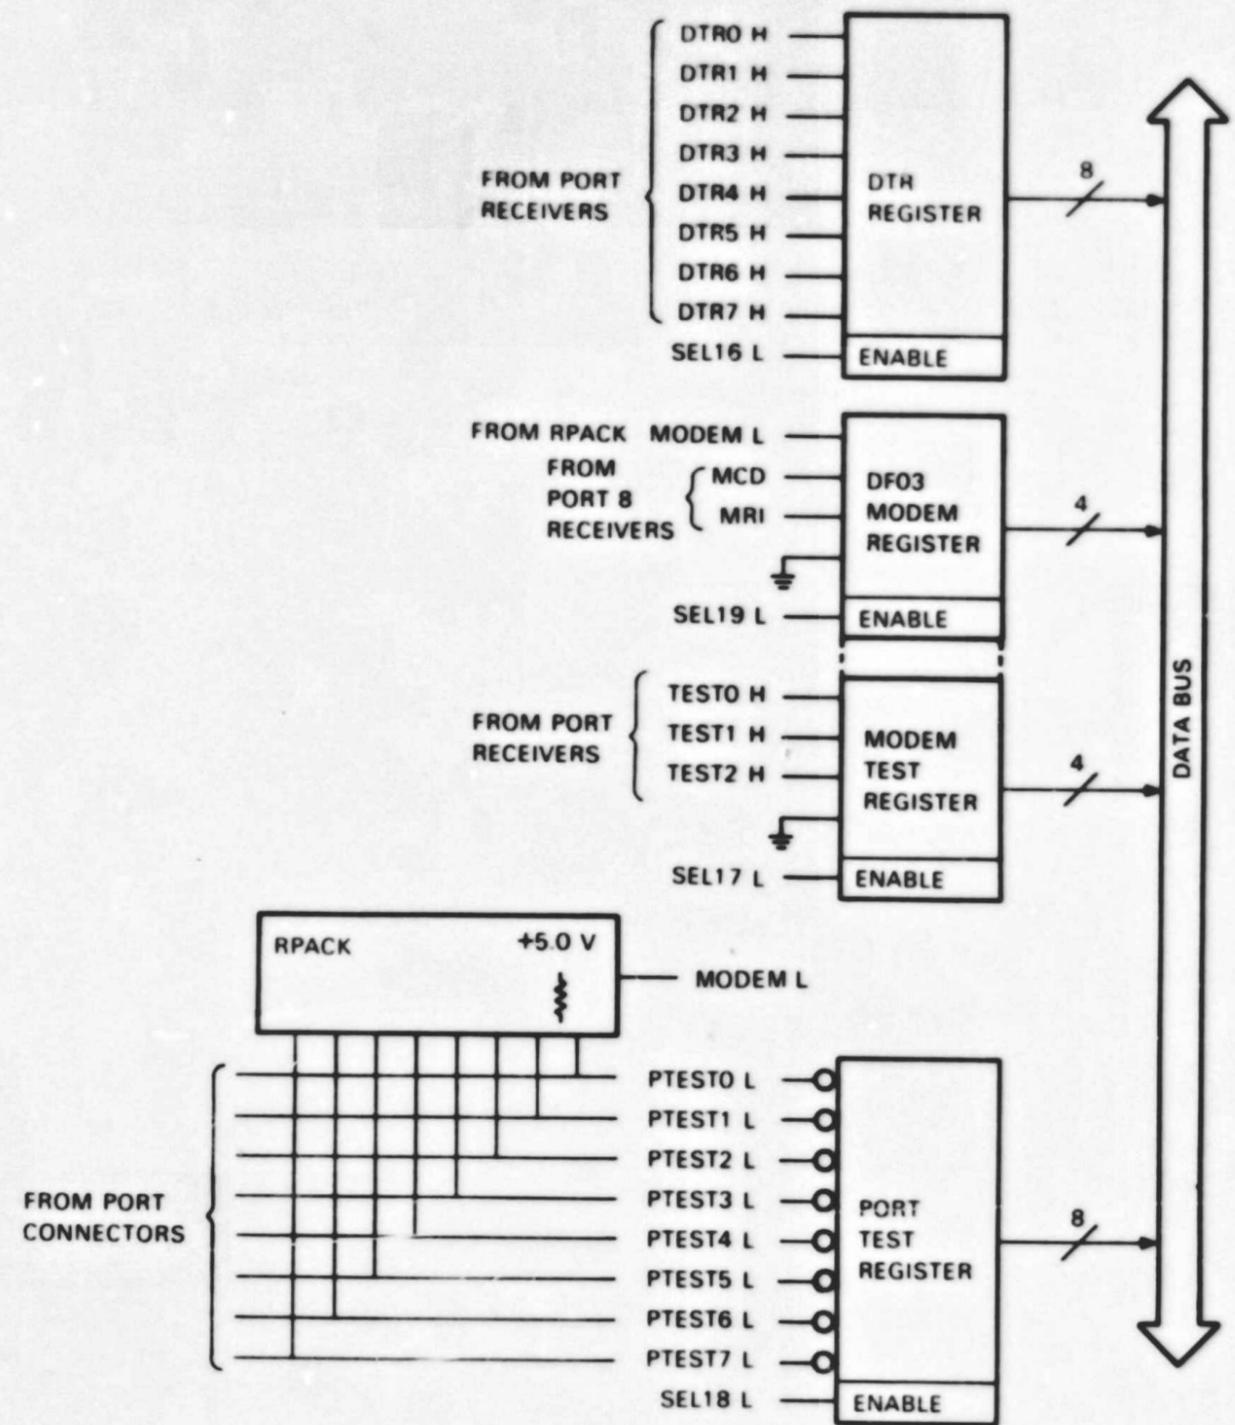

Figure 2-14 Read Control Registers with Data Bus
**2.3.8.1 Data Terminal Ready (DTR) Control Register (Figure 2-14)** – This register is a dual quad buffer. When the address decoders enable this register (SEL16), the data from the input lines transfers to the data bus. Each communication port has a DTR line connected to the DTR control register. The CPU reads this DTR line to determine if a terminal is ready for data transfer.